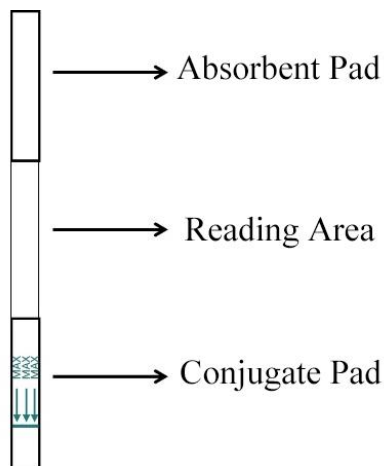

Figure 1. Schematic Diagram of the Structure of a Disposable Nucleic Acid Test Strip
1. Take out the appropriate number of test strips based on the number of samples to be tested and mark them on the absorbent pad (see Fig. 1). Each test strip can only be used once for a single sample. If the volume of the amplification product is between 50-100 μL , nucleic acid detection can be performed directly in a 200 μL PCR reaction tube. If the product volume is less than 50 μL , add ultrapure water to the PCR tube to bring the volume to 50 μL , mix thoroughly before testing.
2. After the Cas enzyme digestion reaction of the PCR, RPA, or RAA product in the CRISPR system is completed, open the PCR reaction tube, and insert the test strip's conjugate pad end (indicated by the arrow) into the PCR reaction tube (see Fig. 1). Ensure that the liquid level does not exceed the top of the conjugate pad. Wait for the entire reading area to be soaked (this usually takes 1–2 minutes; during colder conditions, such as in winter, absorption may be slower, extending the soaking time for the reading area). Once the control line (C line) develops color, you can remove the test strip. Read the result directly based on the color development of the